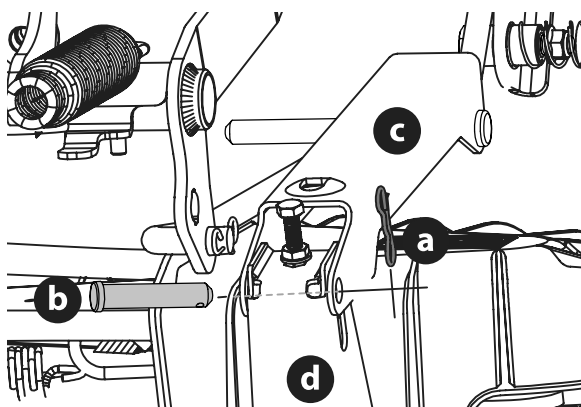

Figure 44
- Remove the two bow-tie pins (a) from the clevis pins (b) that secure the lift link brackets (c) to the rear deck lift brackets (d) on the deck. Remove the clevis pins (b) (Figure 44).